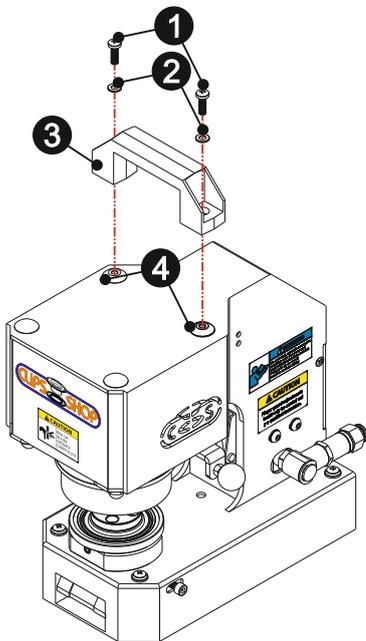

fig. 1
Poke the bolts ① through the washers ② then the hole of the handle ③ and fix them to the bolts with threaded head ④ by using a screwdriver as shown in (fig. 1).